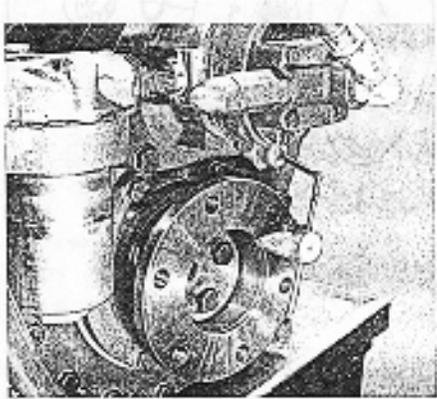

Figure 51. Checking Output Flange Variation at Pilot Ring Groove.
A. Pilot ring groove (see fig. 51) using a thousandths dial indicator as shown, rotate the output flange. Variation must not exceed .003" maximum.